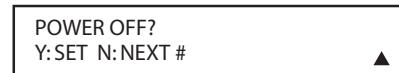

Figure 127.
9. After you press and release the number key, watch the device being programmed to see whether it turns off. As shown in the instructions that will appear on the next menu screen (**Figure 127**), if your device has turned off, press the **Set Button**, and then skip to Step 10. If the unit does not turn off, proceed to the next step.